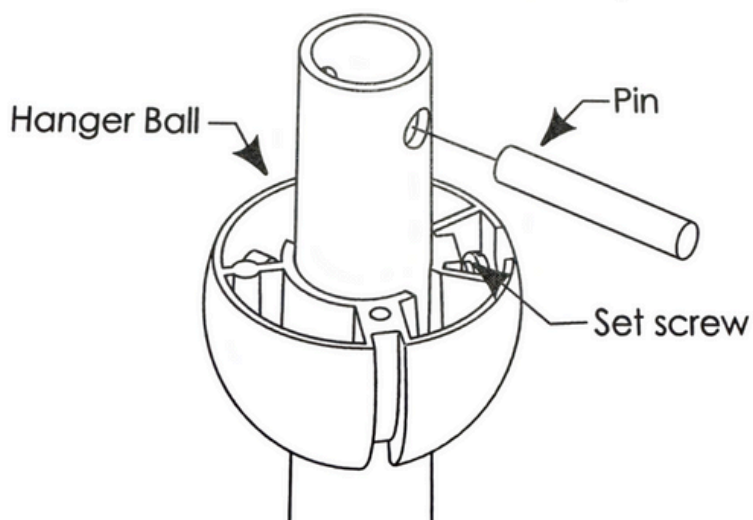

Figure 2
2. Loosen the set screws in the hanger ball assembly until the ball slides carefully down the downrod. Remove the pin from the downrod. (Figure 2)